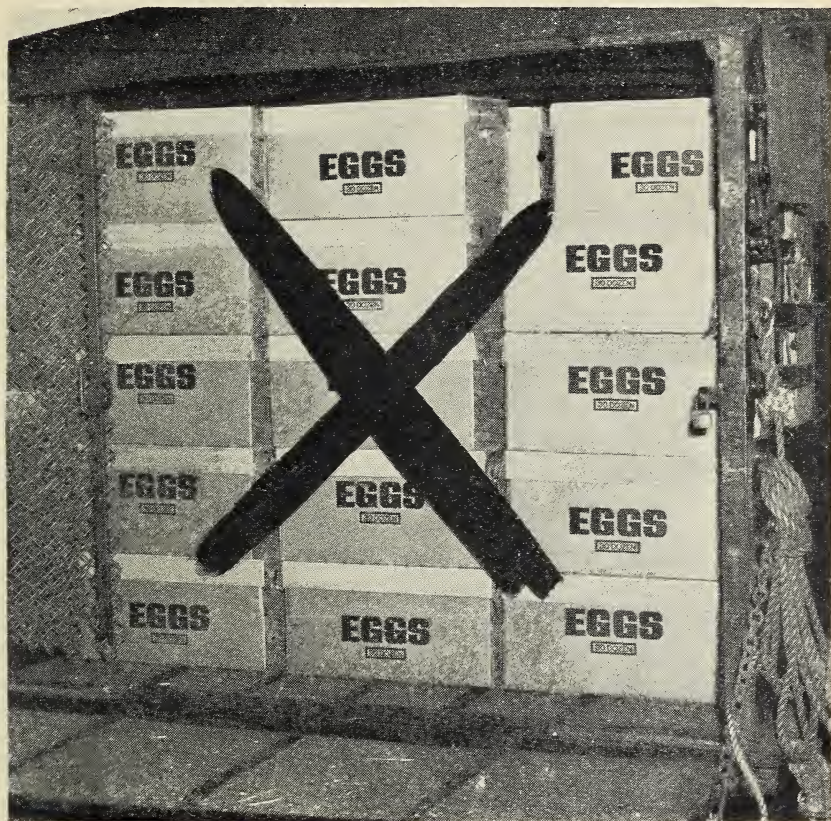

Figure 8.—Cases should not be loaded in a truck crosswise since their side-to-side resistance to pressure and shock is not as great as end-to-end resistance.
3. Load cases on truck lengthwise to the truck (figs. 8 and 9).